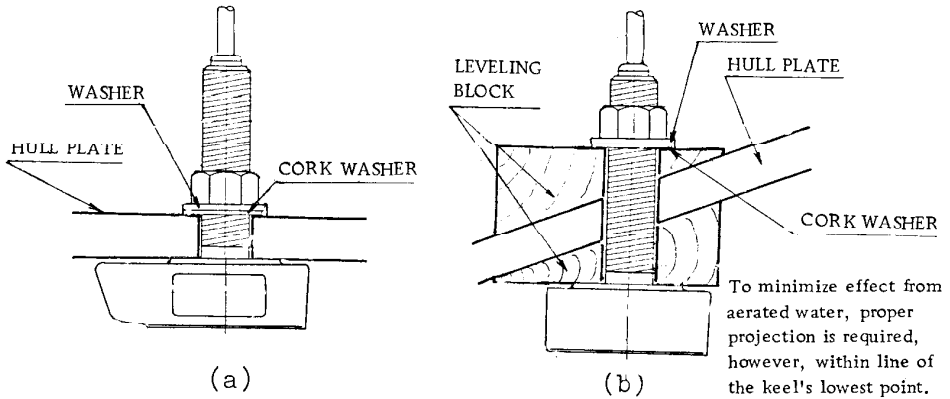

Fig. 1-1
Fig. 1-1 shows examples of transducer installations. The transducer is usually installed through the hull bottom after making a small hole.
5. When the hull bottom is slant, make the transducer face straight down by adding leveling blocks. Refer to Fig. 1-1 (b).